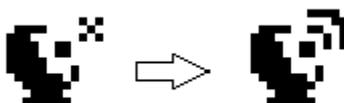

Fig. 30 GPS icons.
- The GPS module is ready when the icon in upper left side of the display changes as shown on the picture below – see on Fig. 30.